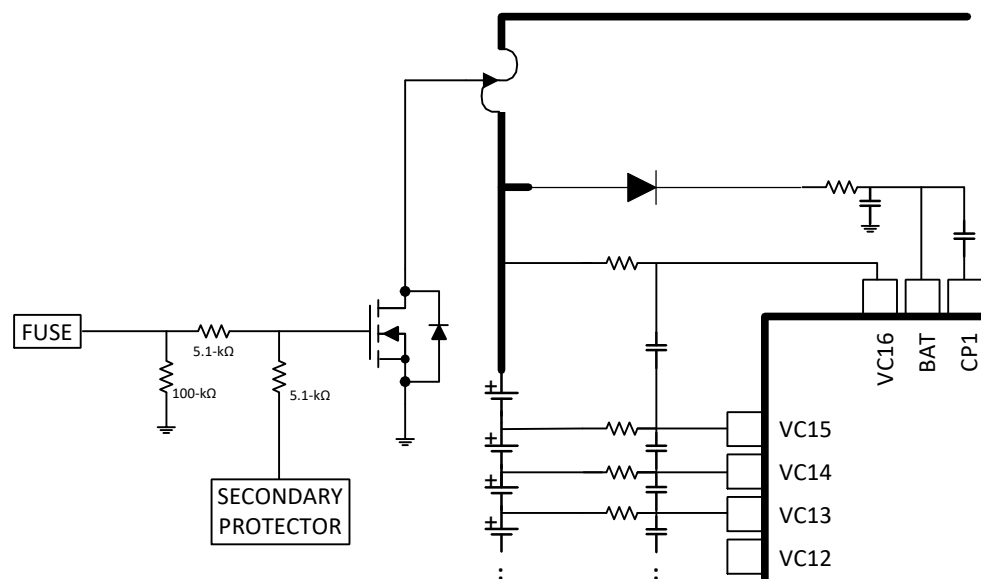

Figure 12-1. FUSE Pin Operation
The FUSE pin on the BQ76952 device can be used to blow a chemical fuse in the presence of a Permanent Fail (PF), as well as to determine if an external secondary protector in the system has detected a fault and is attempting to blow the fuse itself. The pin can drive the gate of an NFET, which can be combined with the drive from an external secondary protector, as shown in Figure 12-1. When the FUSE pin is not asserted by the BQ76952 device, it remains in a high-impedance state and detects a voltage applied at the pin by a secondary protector. The device can be configured to generate a PF if it detects a high signal at the FUSE pin.